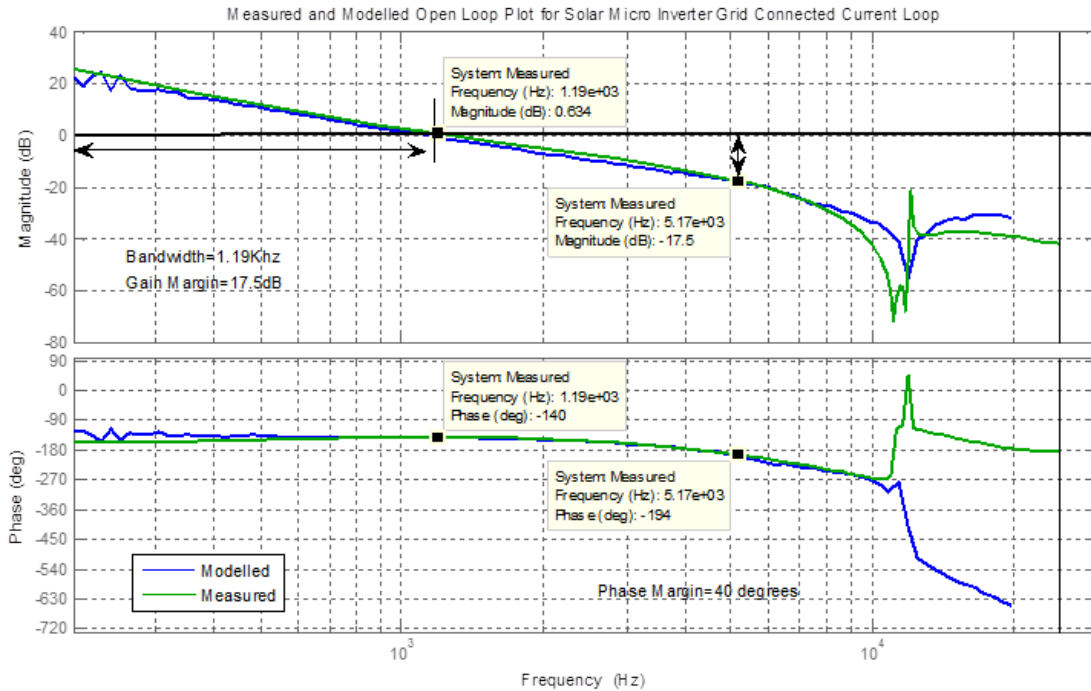

Figure 9. DC-AC Inverter Current Loop Bode Plot
The voltage control loop employs a two pole two zero (2P2Z) compensator and regulates the input DC bus voltage at the reference level V_{bus_ref} by generating the reference current command for the current loop. The current loop forces the inductor current I_L to track the reference signal I_{L_ref} generated by the voltage loop. The current controller has the form of a 3P3Z compensator. The PLL controller allows for locking the phase and frequency of the inductor current to the grid voltage V_{LN} under all conditions. The grid voltage acts as a disturbance for the current controller, and a 2P2Z compensator cannot track to zero steady state error for this disturbance. Therefore, a feedback linearization technique is used in current control loop to calculate the PWM duty ratios for the inverter switches Q3 and Q4 (see Section 2.3.2 for details). This linearization technique assumes that the current loop gain is high at the vicinity of a grid frequency of 47 Hz to 65 Hz. This assumption is later validated by measuring current control loop gain as shown in Figure 9, which shows both the designed (calculated) and measured current loop gain plot. As shown in the plots, the current loop bandwidth is around 1.2 kHz and the gain at 200 Hz or below is more than 20 dB. A detailed description of the software algorithm is provided in the following chapters.
The loop gain Bode plot for the current loop is shown previously in Figure 9. The plot shows that the cutoff frequency of the current loop is around 1.19 kHz, and the system is stable with good phase margin (PM) and gain margin (GM).